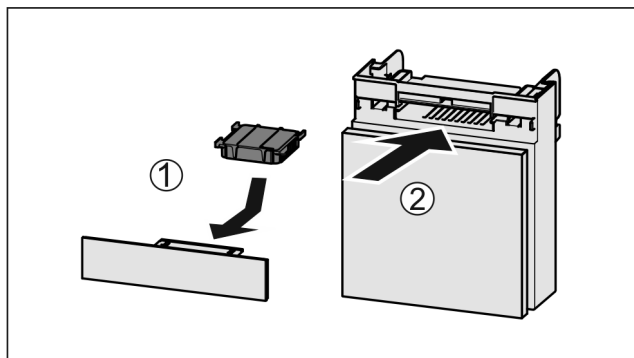

Fig. 163
- Insert the carbon filter as shown in the diagram Fig. 163 (1).
- If the carbon filter is pointing downwards: Push the compartment in Fig. 163 (2).